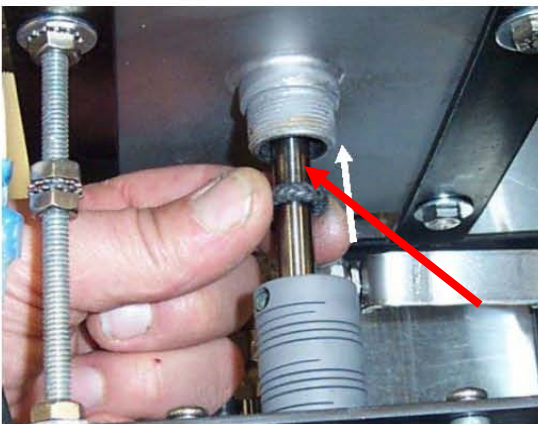

Figure 11
14. Take the first piece of carbon rope and wrap it around the shaft of the agitator and push the coil into the nipple on the bottom of the vessel (where the previous packing was removed). Then take the graphite cylinder over the end of the shaft and like the carbon rope, press the cylinder into the nipple (Figures 11 & 12).